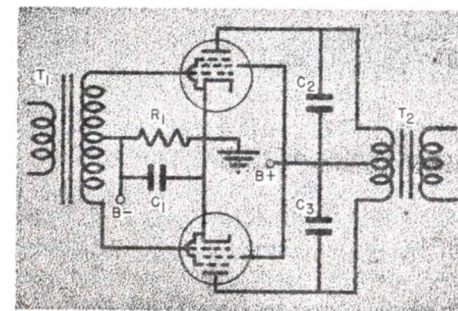

FIG. 23. A typical push-pull output stage.
stage, because this is usually the only stage where enough power is available to sustain the oscillations. A pentode output stage is particularly subject to these oscillations, because such a stage has high gain, has a tube with a relatively coarse screen grid structure (so that the inter-electrode capacity is high), and uses circuit elements which readily permit parasitic oscillations. This trouble is most common when the output stage is run as a class AB or class B push-pull amplifier, where a low-resistance input transformer must be used. A typical circuit is shown in Fig. 23.
► Manufacturers generally use condensers such as  $C_2$  and  $C_3$  of Fig. 23 in circuits where parasitics may develop, to make the plate load more capacitive. Such condensers should be right at the tube socket, a position which makes the effective length of the plate leads shorter, reducing further the inductance effects as well as the ability to feed back.
In the circuit shown in Fig. 23, the